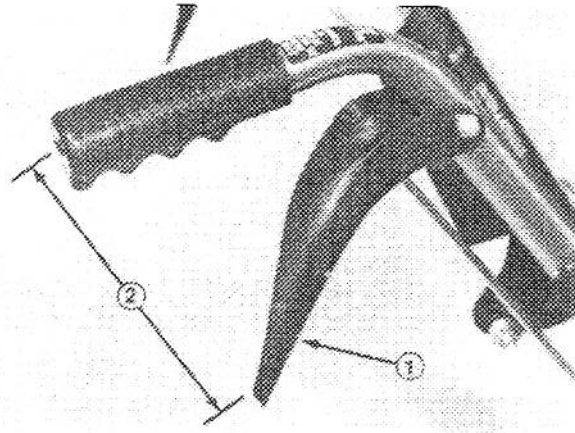

Figure 8
3. Check the distance between the center of the handle and tip of the auger control lever (Fig. 8). Distance should be 6-1/2 inches (16.5 cm).